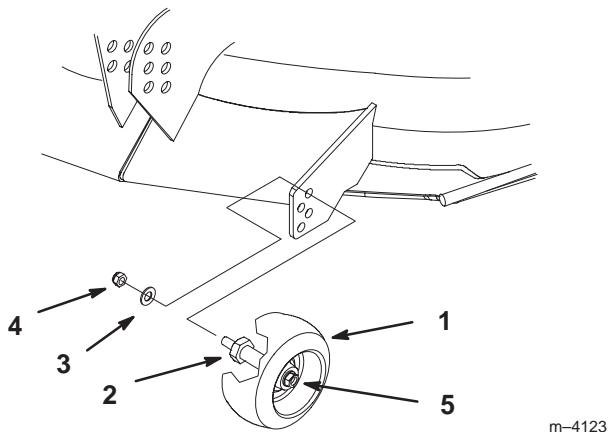

Figure 9
1. After adjusting height-of-cut remove nut and washer while holding stud with wrench (Fig. 9).
Note: Do not remove the wheel nut and washer (Fig. 9).
2. Select a hole position so the gage wheel is 3/8 inch (9.5 mm) off the ground for the height-of-cut to be used (Fig. 9).
3. Reinstall the stud nut and washer (Fig. 9).